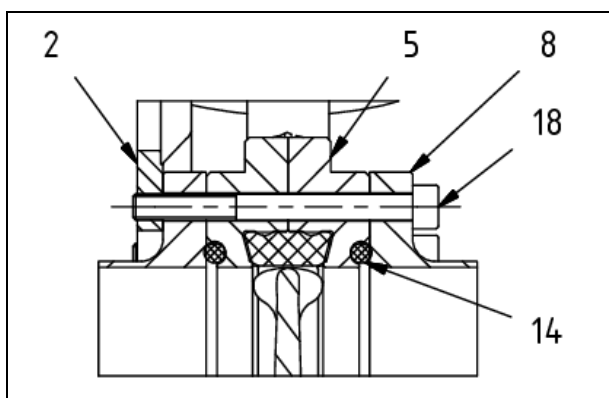

Fig. 6.7: Screwing the Holding Bracket and Valve together
- Align the holes in the holding bracket with those in the valve, then screw the holding bracket and valve together using the socket-head screws (Fig. 6.7, item 18).